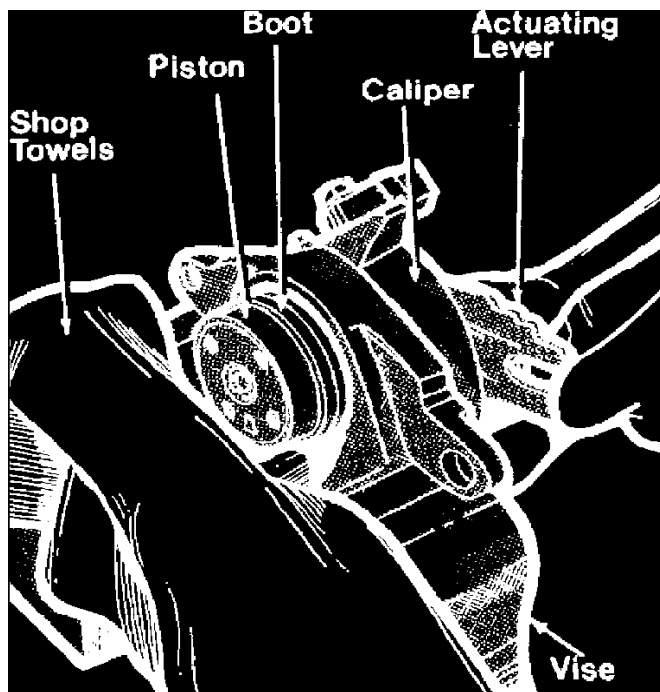

Fig. 3 Removing piston from bore
3. Rotate parking brake lever back and forth to remove piston from housing, **Fig. 3**. If piston will not move from housing, remove locknut, lever and anti-friction washer. With a 9/16 inch wrench, rotate screw clockwise on right hand caliper or counterclockwise on lefthand caliper until the piston moves from housing. **Pad caliper with shop cloths when removing piston.**